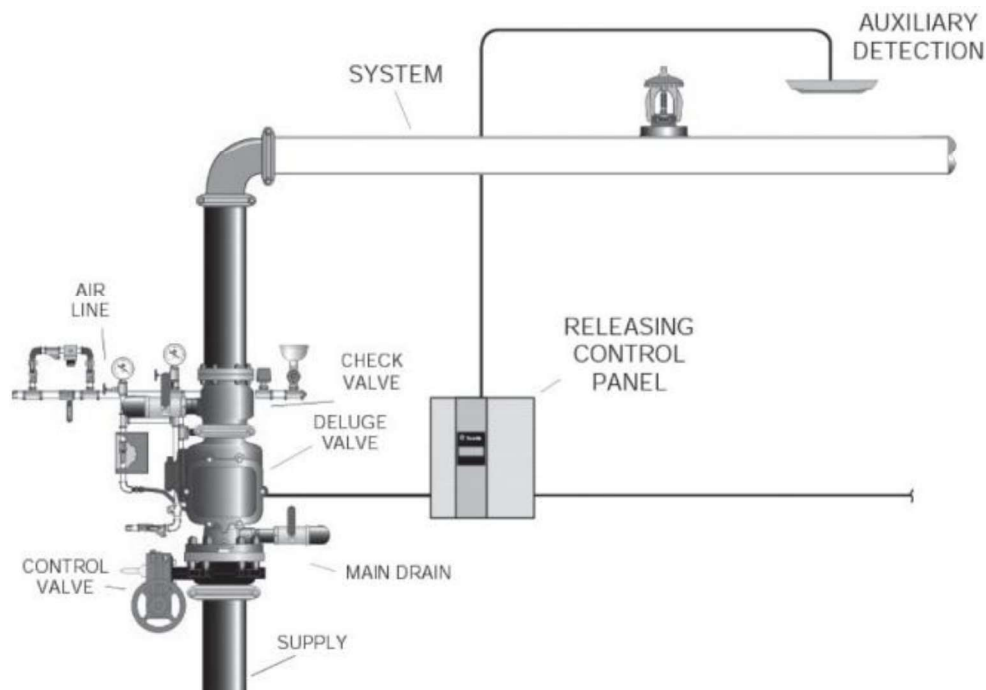

Figure 10.1 – Pre-Action Valve Setup
- Pre-action systems should be a double interlocking system. This means that the system will have both a preceding and supervised event such as heat or smoke detectors as well as an automatic sprinkler activation. Figure 10.1 below shows a pre-action valve arrangement with an addressable panel. Generally, these types of systems operate faster and reduce fire and damage compared to the standard automatic sprinkler systems.